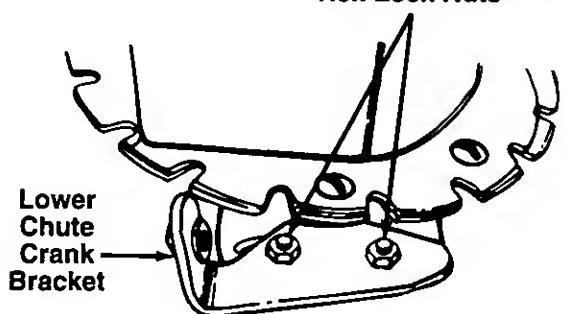

**FIGURE 3.**
2. Place chute assembly over chute opening, with the opening in the chute assembly facing the front of the unit. Place chute flange keepers beneath lip of chute assembly. Insert hex bolt up through chute flange keeper and chute assembly as shown in figure 3. Secure with hex lock nut. After assembling all three chute flange keepers, tighten all nuts and bolts securely, then back off 1/4 turn to allow easier movement.